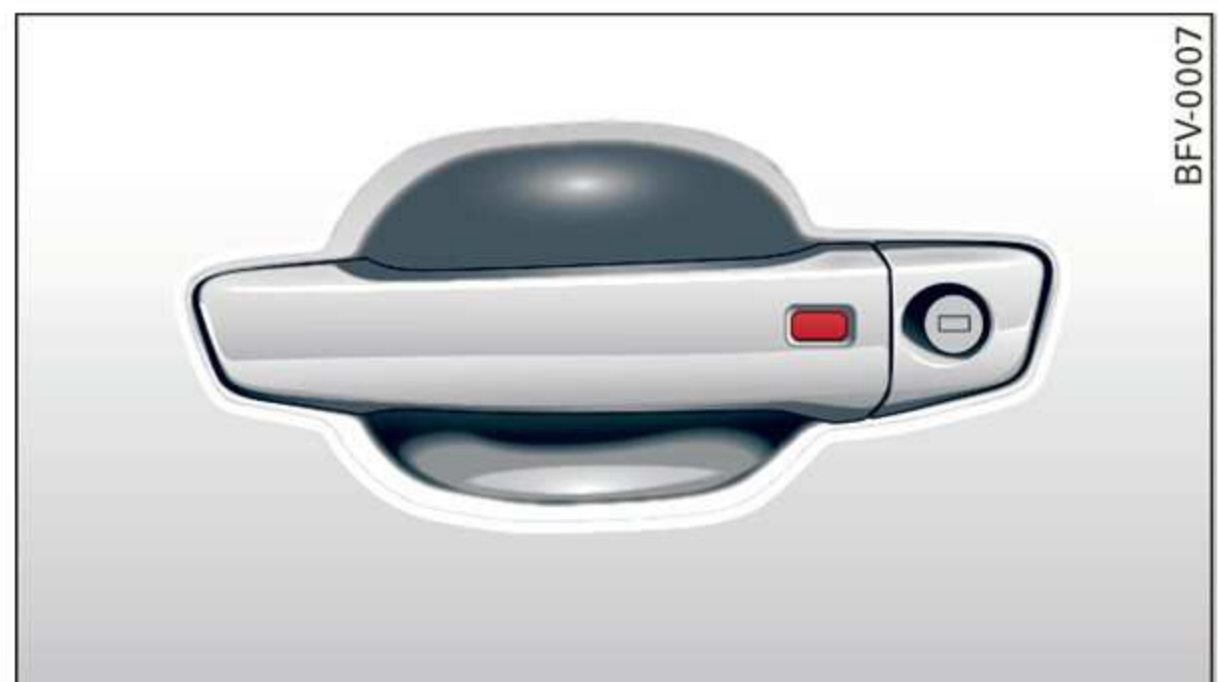

Fig. 16 Door handle: sensor for locking
- ▶ To lock the vehicle, close the door and touch the sensor in the door handle **once** ⇒ *fig. 16*. Do not hold the door handle while doing this.
- ▶ Press the  lock button on the convenience key and touch the sensor on the door handle (driver's door) one time within five seconds of pressing the button ⇒ *fig. 16*. Do not grasp the door handle while locking the vehicle, or else the vehicle will not lock.